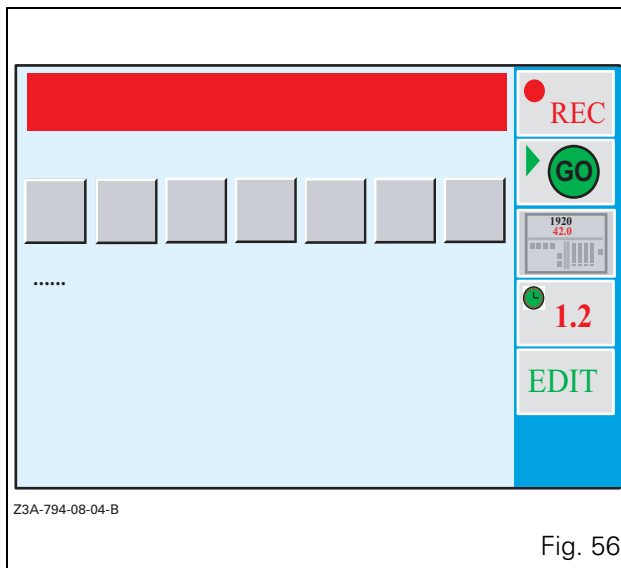

Fig. 56
- Pressing the key <<5> (facing symbol 29) calls up the HEADLAND configuration menu. The window (Fig. 56) is displayed.